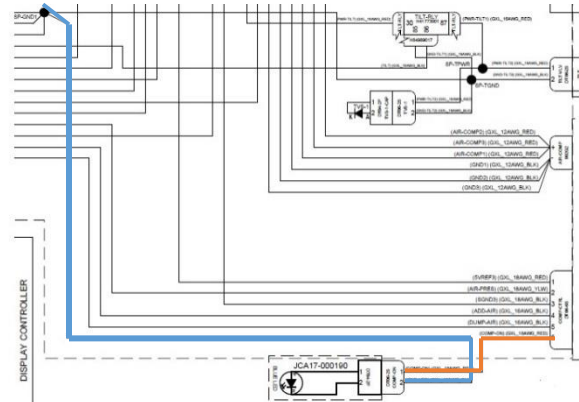

Figure 239
3. The ground for the light is from a splice on the extension harness from pin F and H. Figure 239